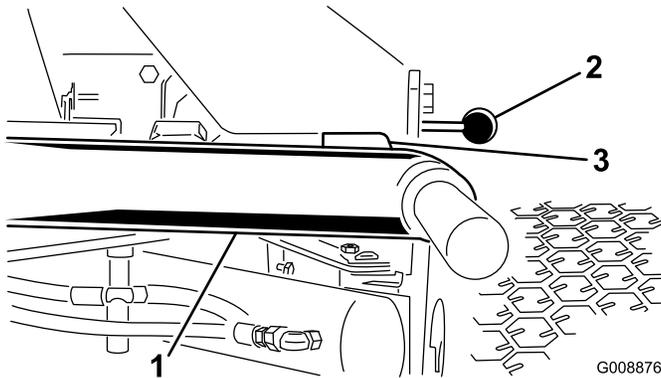

Figure 10
1. Start the engine, raise the cutting units, and check to ensure that the clearance between each lift arm and the floor plate bracket is 0.18 to 0.32 inches (5 to 8 mm) (Figure 10).